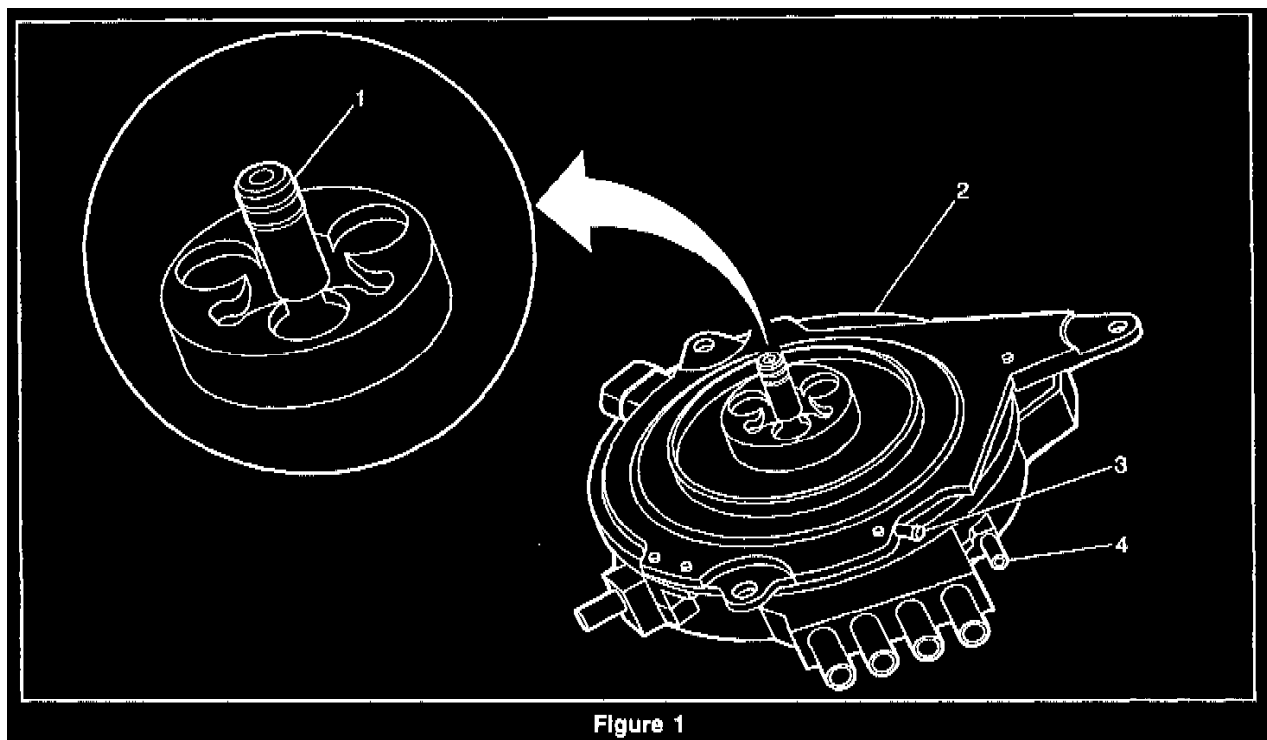

Figure 1
The Discs (see Figure 1 - 3M(R) Roloc Disc Identification) are available in different grit levels, with suggested applications as shown:
1. Opti-Spark Distributor II (Pin Drive - WITH positive vent system) can be identified by the intake manifold vacuum hose connection (3), air intake duct hose connection (4), or non-splined pin drive (1). Refer to Figure 1.
Oil leaks at mating surfaces between the intake manifold and engine block. Sometimes called "China Wall." (See Figures 1 and 2).